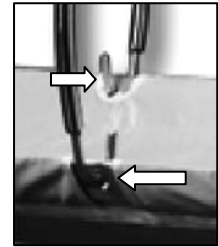

Figure 10: A-Frame Hook Placement on Stretcher
STEP 11: (Figure 10) The Stretcher attaches to the A-Frames by inserting their hooked ends through the four holes in the Stretcher.